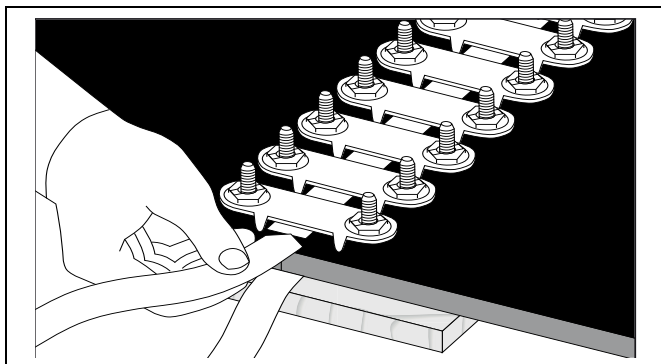

Figure 4K
8. Before tightening fasteners, cut a piece of Flexco-Loc Tape three (3) times the width of the belt plus 6" and cut a point on one end. Thread pointed tape between fastener teeth and top of belt, back through the bottom plates, and across the top again. This will help eliminate belt ripple and keep moisture and fine particles from deteriorating the end of the belt and increase belt life. (See Figure 4K.)